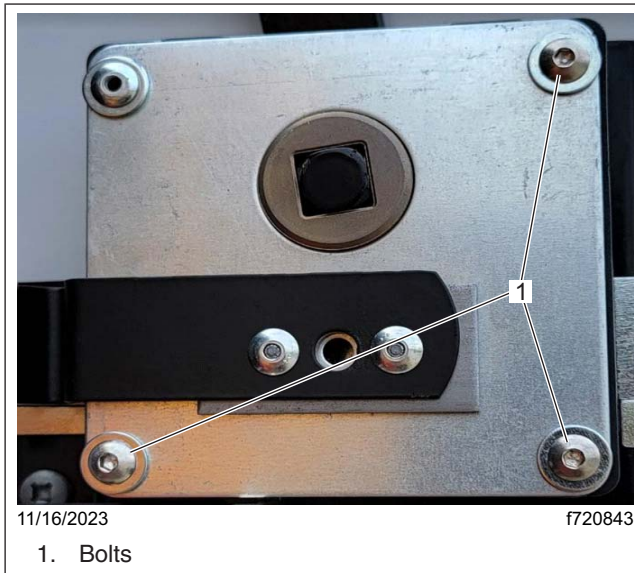
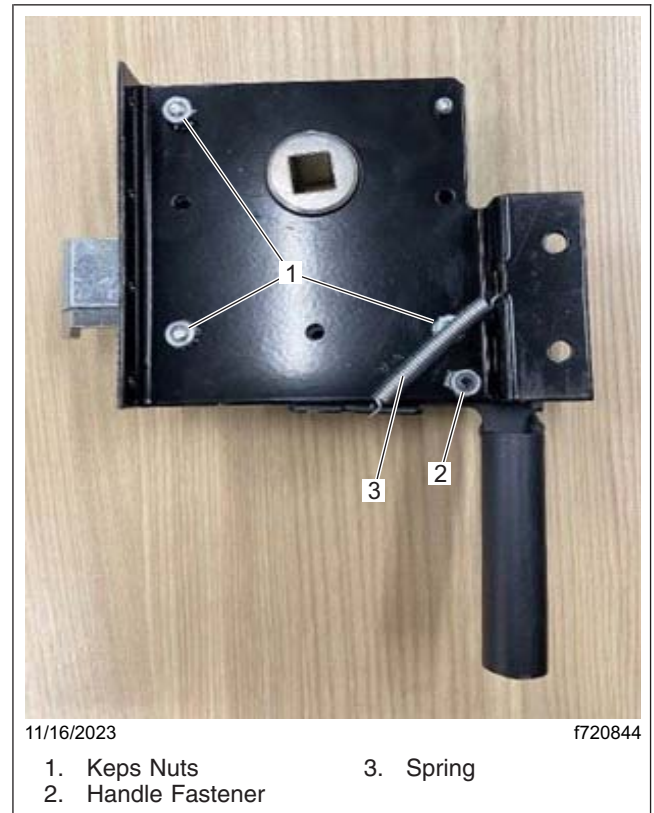

Fig. 2, Location of the Bolts
Fig. 3, Location of the Fasteners and Spring
- 6. The door latch mechanisms have three 10-24 x 3/8-inch attachment bolts as shown in Fig. 2, fastened with Keps nuts as shown in Fig. 3.
NO → The handle fastener may need to be adjusted, or the spring needs to be put back in place, if it was detached during the bolt tightening. See Fig. 3.